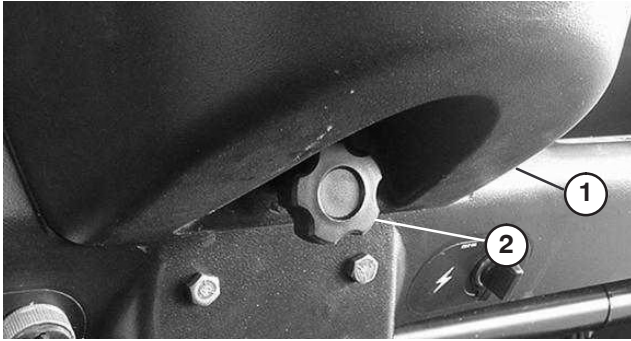

Figure 9
2. Loosen knob securing cup holder to dash (Fig. 9). Remove cup holder from dash.